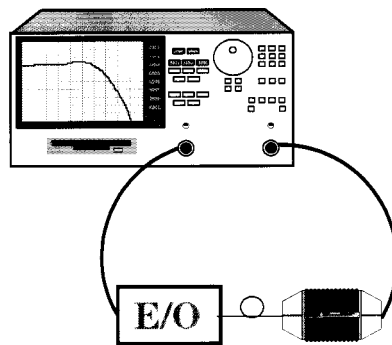

Figure 2-1. Connections for Source Measurement
- 2 Connect the test device to the HP 8702D as shown in Figure 2-1.